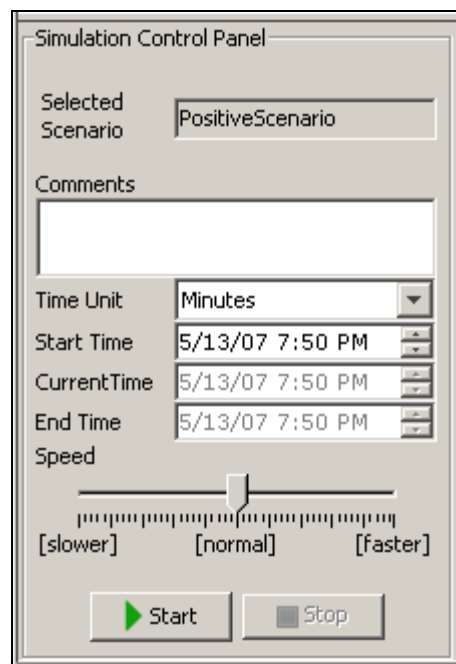

Figure 10.17: Simulation Control Panel
1. In the Process Simulator applet, double-click the required scenario from the *scenarios* tree in the simulation entities panel. The selected scenario is shown in the *Selected Scenario* field in the *Simulation Control panel* (see Figure 10.17).